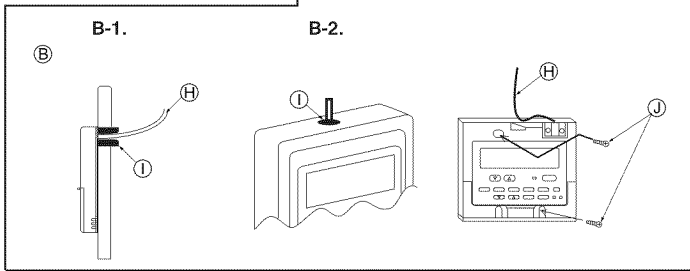

Fig. 6-3
① Remote controller profile
② Required clearances surrounding the remote controller
③ Installation pitch
(2) Seal the service entrance for the remote controller cord with putty to prevent possible invasion of dew drops, water, cockroaches or worms. (Fig. 6-3)
① For installation in the switch box:
② For direct installation on the wall select one of the following:
(3) For direct installation on the wall
① Wall
② Conduit
③ Lock nut